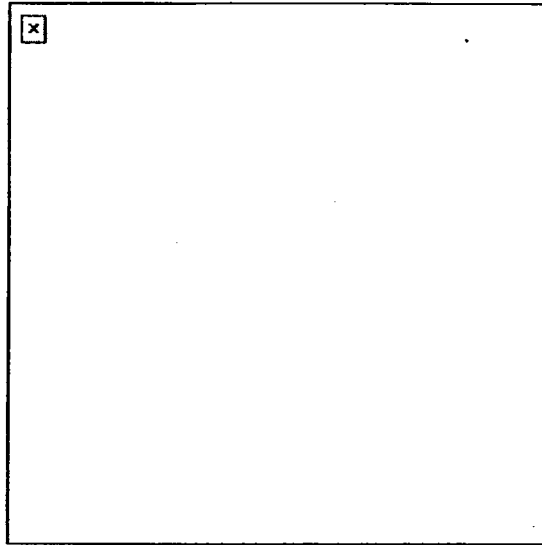

Figure 12. TOW position.
- (1) The building must be sturdy.
- (2) The ceiling must be at least 7 feet high.
- (3) The floor size of the room must be at least 17 by 24 feet for a TOW, 15 by 12 feet for a Dragon, and 4 feet to the back wall for a LAW backblast area.
- (4) There must be an opening at least 20 feet square at the rear of the weapon for backblast. An open 7- by 3-foot door would be adequate.
- (5) All glass must be removed from windows and all loose objects removed from the room.
- (6) All soldiers within the room must be forward of the rear of the weapon.
- (7) All soldiers in the room must protect their ears when the weapon is fired.
- (8) The clearance between the muzzle of the weapon and the opening it is fired from should be 9 inches for a TOW and 6 inches for a Dragon (Figures 12, 13, and 14).